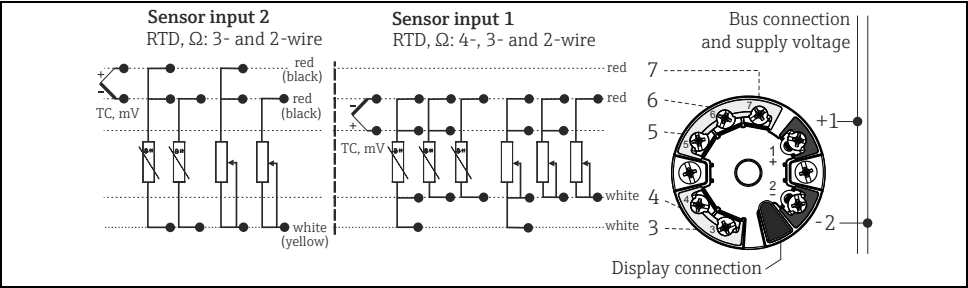

Fig. 5: Wiring the head transmitter
3. Connect the cables as shown in Fig. 5. If the head transmitter is fitted with spring terminals, please pay particular attention to → Page 33.